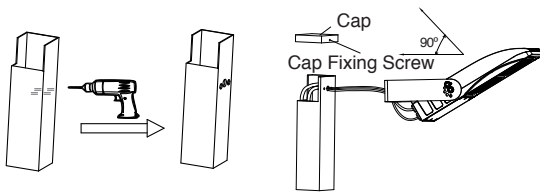

Figure 4-1
1. Use the electric drill to drill holes on the poles or suspended walls. (The hole pitch should be according to the actual application of products, the hole size should be same as the screw the user has.) (Figure 4-1)